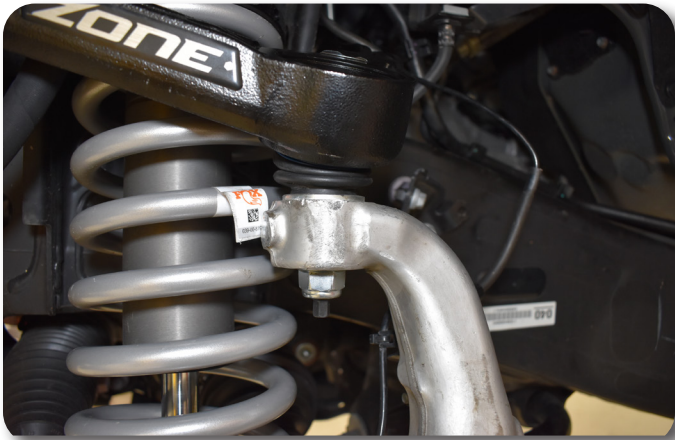

Figure 16
20. Attach to the steering knuckle at this time with new hardware. Tighten ball joint hardware to 81 ft-lbs. Install cotter pin, do not loosen the nut to install the cotter pin. Figure 16